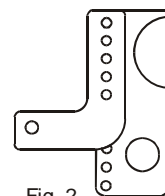

Fig. 2
- Now, with the cross member located you will need to locate the positions of the upper shock mount tabs and the housing brackets. An easy way of accomplishing this is to use a plumb bob (a nut tied to a piece of string will also work). Assemble both sets of the upper mounts(2 tabs, 1 - 1/2" id. x 1-1/4 in. sleeve or 1" wide bearing (if applicable), 1 - 1/2 x 2-1/2 in. bolt and 1 - 1/2" nut). Assemble both of the adjustable mounts (1-left L-bracket, 1 - right L-bracket, 1 - housing bracket, 2 - 3/8 x 1-1/4 in. bolts, 2 - 3/8 in. nuts). When assembling the adjustable shock mount brackets, the housing bracket is to be sandwiched in between the two L-brackets. Align the L-brackets so that the shock mount hole is approximately half way down the housing bracket (Fig. 2). This allows plenty of ride height adjustment, both up and down. It is suggested that for the installation process that you substitute the nylock nuts with standard nuts for ease of use.